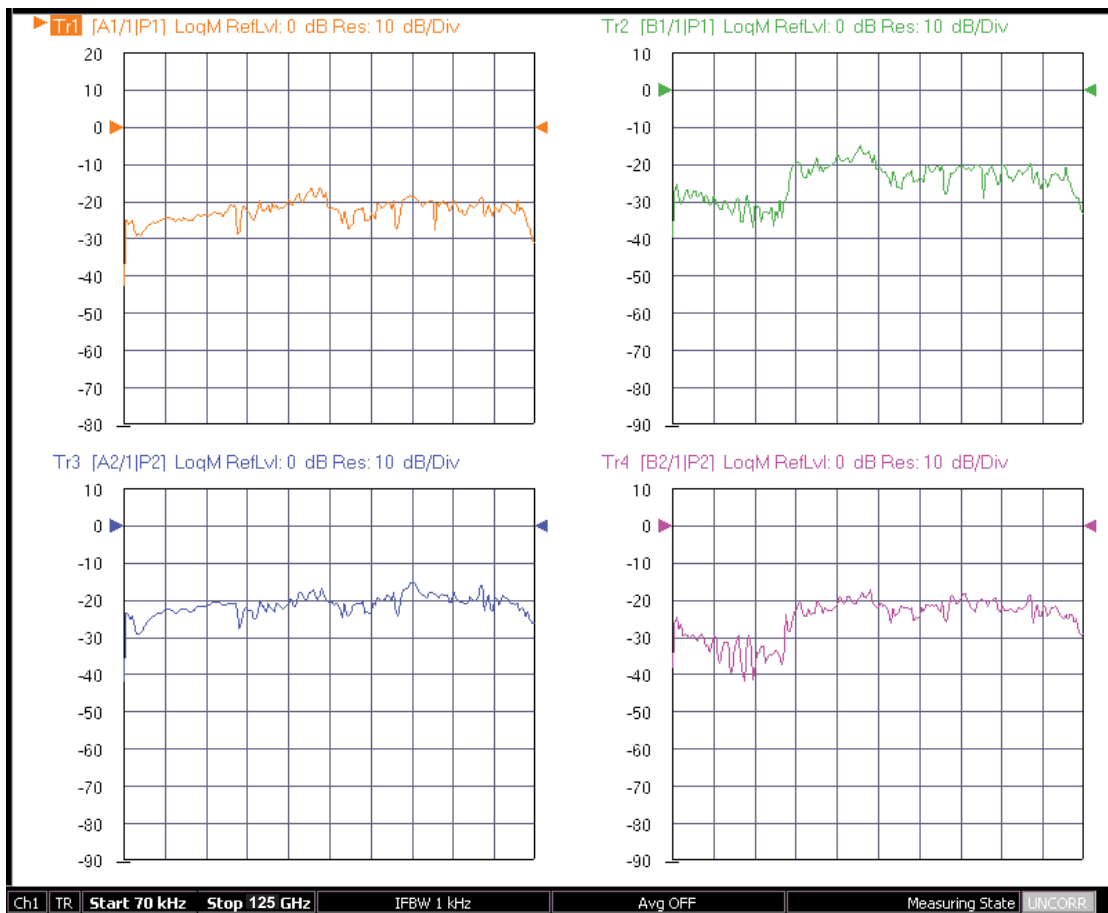

Figure 3-17. Typical VNA Four-Trace Display of Non-Ratioed Parameters for Initial Checkout
21. Connect **shorts** to both W1 connectors on the 3743A Modules, and ensure the resultant display looks similar to Figure 3-17 below.